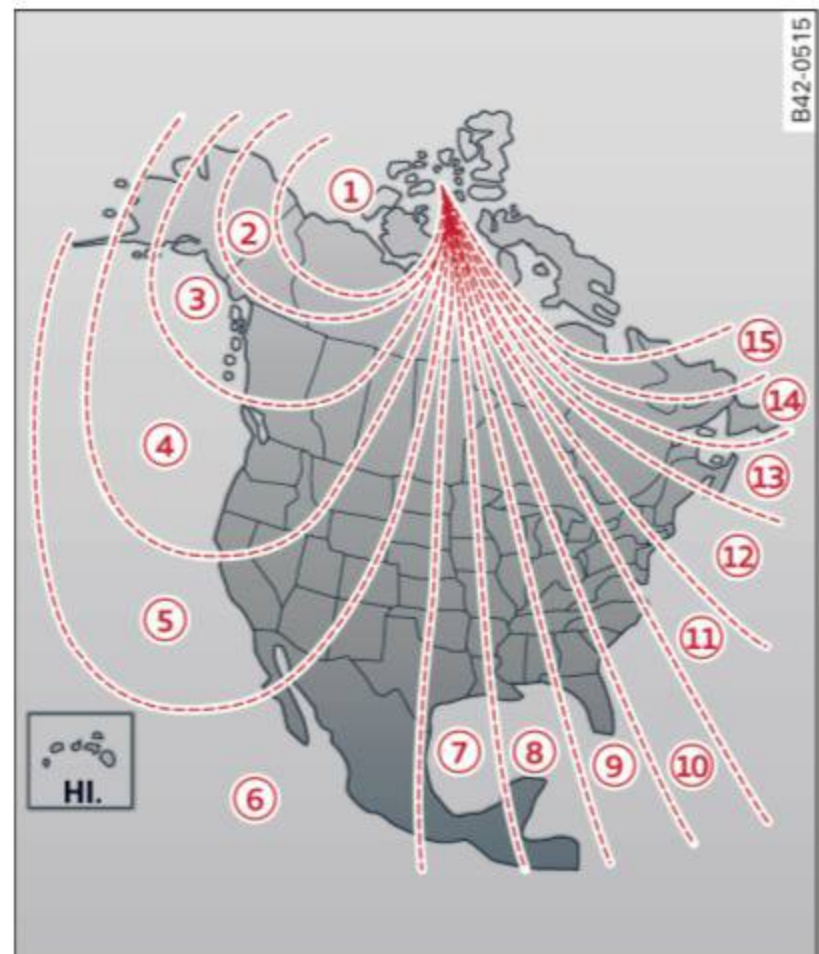

Fig. 48 North America: magnetic deflection zone boundaries
- ▶ Press and hold the button **A** \Rightarrow fig. 48 until the number of the magnetic zone appears in the rearview mirror.